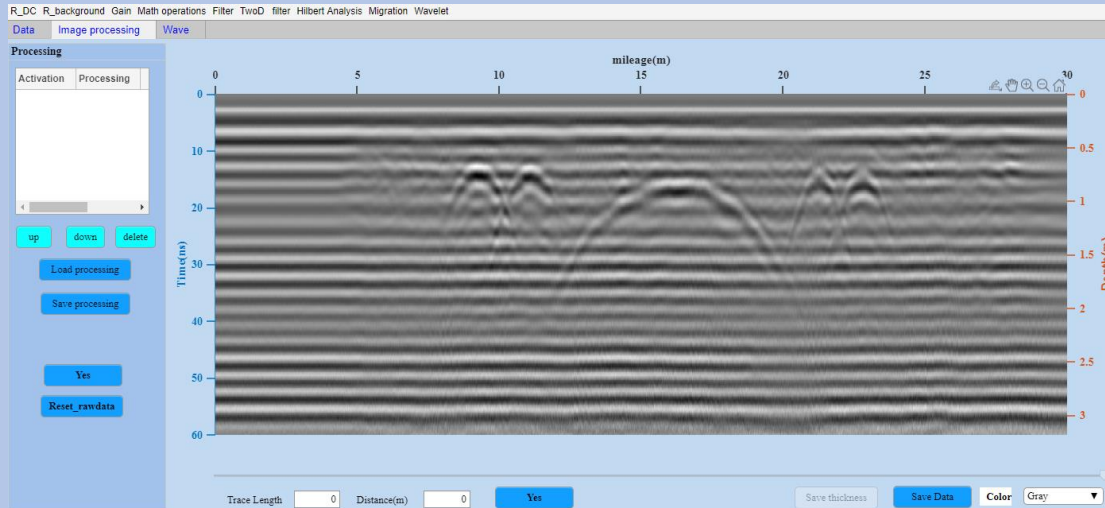

Figure 8.4 Raw data
(3) Switching to the Image Processing module, we can observe the raw data as shown in Figure 8-4.